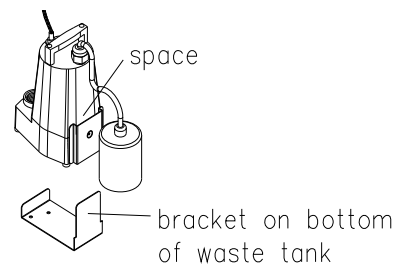

Fig. 2
3. Look inside recovery tank and be certain that submersible pump is secured properly to bracket on the bottom of the tank (Figure 2). Take note of the space between the case of the flood pump and the attached stainless steel bracket. Lower the pump so this space engages the bracket mounted in the bottom of the recovery tank. Also be certain that nothing is obstructing the free movement of the float switch.